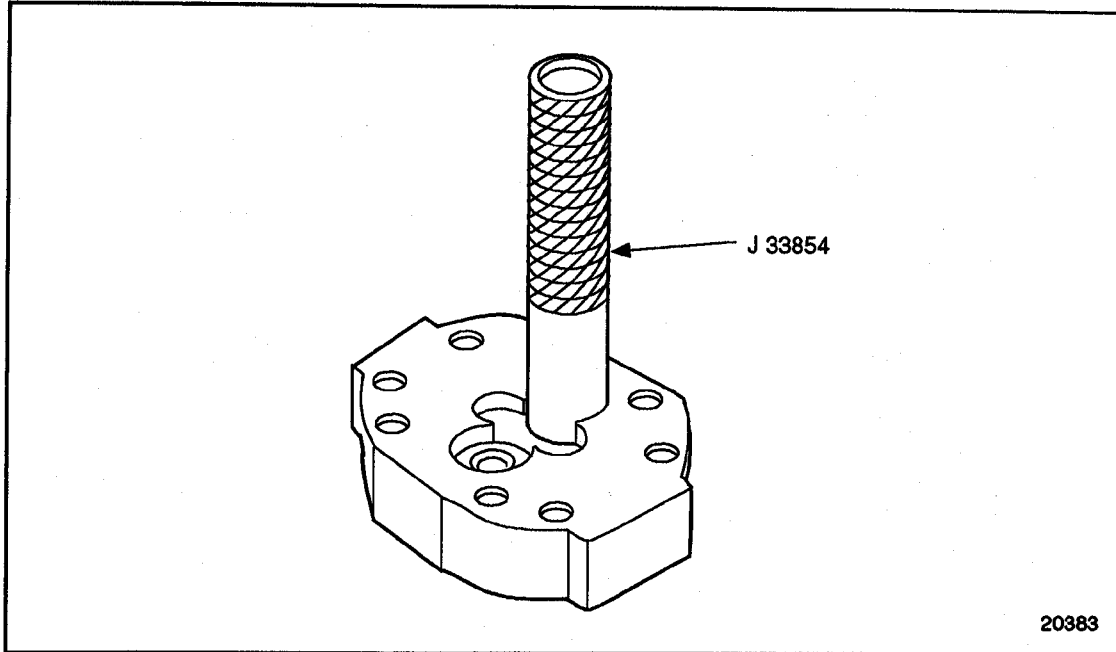

Figure 2-53 Drive Shaft Bearing Installation
9. Install drive shaft needle bearings, using J 38767-8 part of J 38767-A. The new tool permits bearing installation over drive shaft. Tool J 33854 can and should be used to install the other three bearings as shown. See Figure 2-53 (this tool will support the bearing cages).